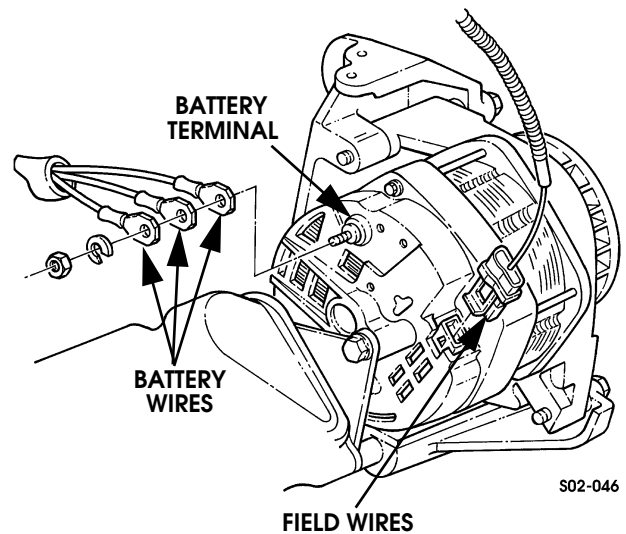

Figure 12-37: Alternator Connections
4. Pull alternator away from engine. Remove nut and lockwasher and disconnect battery wires from battery alternator terminal (Figure 12-37).
5. Unlock and disconnect field wire (Figure 12-37).